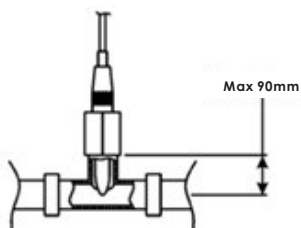

Fig. 4
b) Saddle for the pH injector (Fig. 4): Before installation, drill a hole in the pipe after the electrolysis cell with size approx. 9 mm. Install a socket with connection 3/8" female GAS thread connection in the saddle. The injection valve will be connected to the socket.